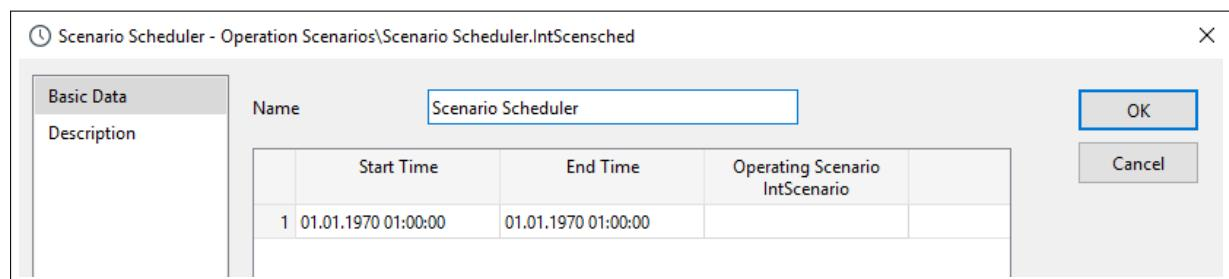

Figure 16.4.1: The Scenario Scheduler (IntScnsched) dialog
4. Press **OK**. The scenario scheduler object dialog will appear as shown in Figure 16.4.1. Give the scheduler a name.